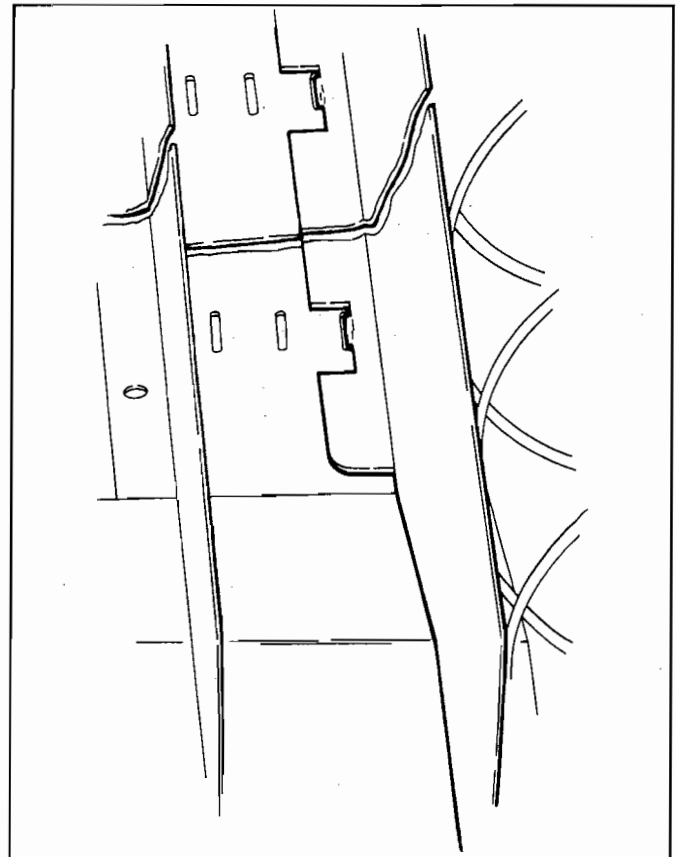

Figure 4. ALIGNMENT OF MOVEABLE PRODUCT SPACERS.
5. **PRODUCT SPACERS—4 SELECTION SHELF:** A product spacer is used to reduce the width of the product area and should be used on any 4-selection snack shelf where the product width is $4\frac{1}{2}$ " or less. Spacers should fit within $\frac{1}{8}$ " of the product but should not fit tight against the product. There are three positions in each snack space where these spacers can be placed. To install the spacer, align the lock ears (on the lower edge of the spacer) with one of the three sets of slots (one front and one rear). (See Figure 4). Push the spacer to the rear to allow the ears to enter the slots, then allow the spacer to move forward. Be sure the ears are in the same set of slots, front and rear. (See Figure 4). Continue loading all spirals adjust with spacers where needed in the top shelf. Return the top shelf to the vend position and following this procedure load the remainder of the large spiral shelves. The shelf divider separating the right (lock side) column from the next column is movable to allow vending of products wider than $5\frac{1}{2}$ " in the second column. If this is used the right column must be used to vend a narrower product.